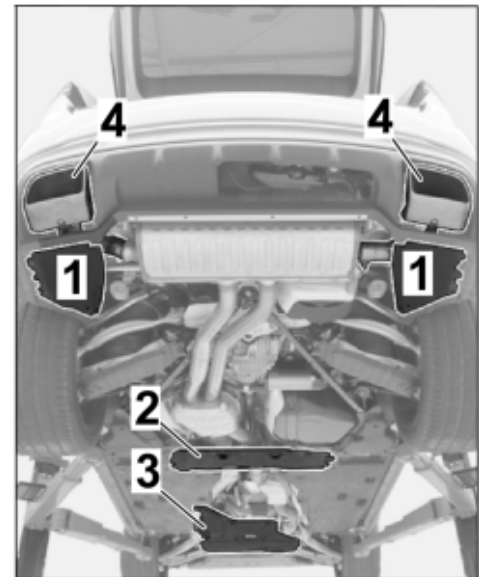

Figure 11
1.7.1 Remove the rear underbody cover and rear tunnel cover. ⇒ *Figure 11 -1 and 2- ⇒ Workshop Manual '519419 Removing and installing rear underbody cover'*
1.7.2 Remove the front underbody cover (rear section). ⇒ *Figure 11 -3- ⇒ Workshop Manual '51921900 Removing and installing front underbody cover'*
1.7.3 Remove the tailpipe (left/right). ⇒ *Figure 11 -4- ⇒ Workshop Manual '263419 Removing and installing tailpipe - T9I'*